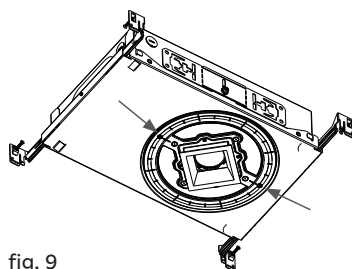

fig. 9
- a. Loosen the RF window's two outer screws, freeing the collar for rotation (see fig. 9).